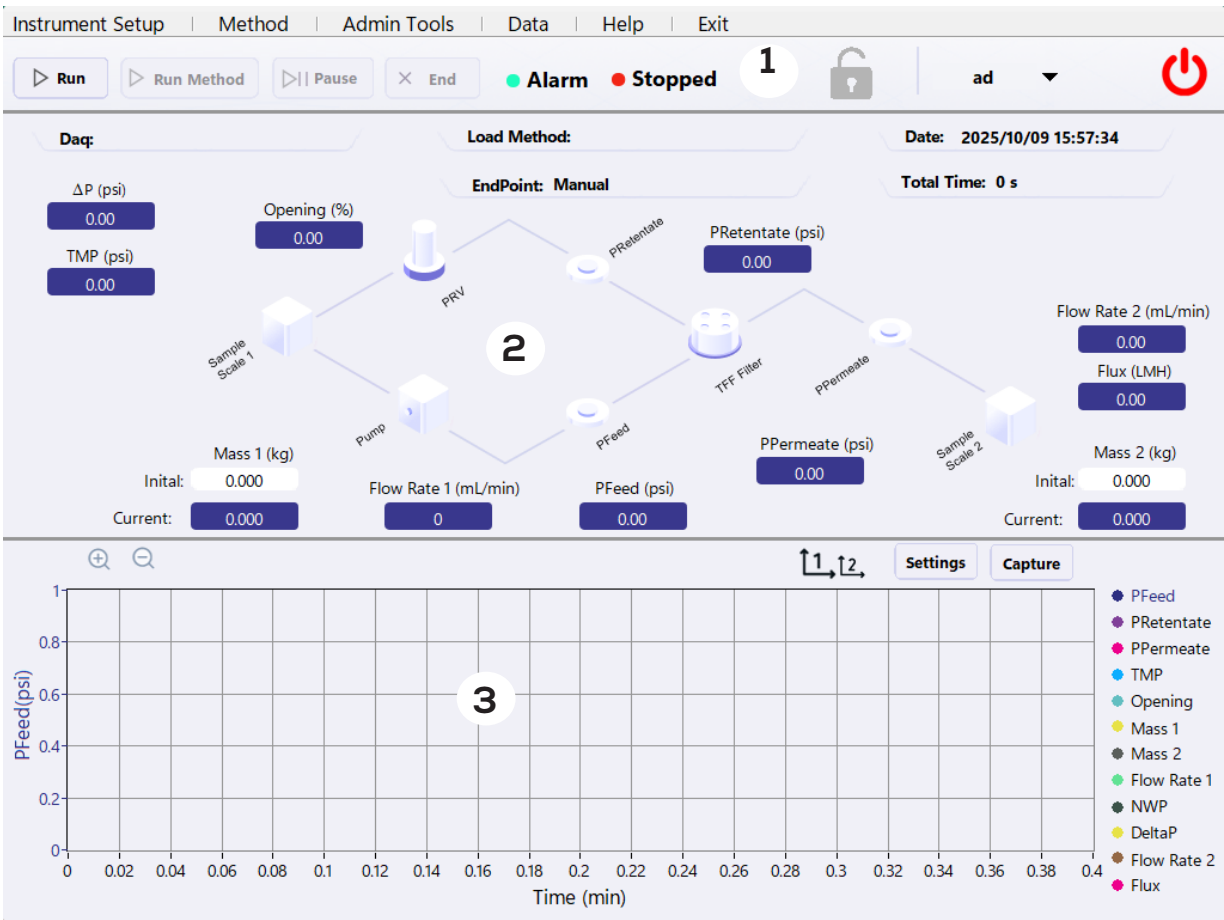

Figure 6. Three main areas of the software interface. 1) Function Control, 2) Process Control, 3) Graph Display
The main interface consists of 3 parts, ① Function Control Area, ② Process Control Area, and ③ Display Area, as shown in Figure 6 below.